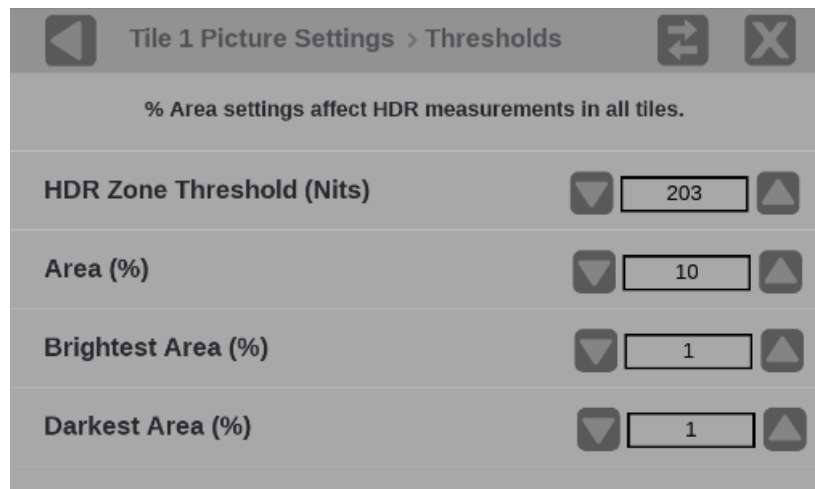

Figure 115: Picture Settings with Measurement Threshold menu
Select the picture measurements to see in the overlay. For many of the parameters a threshold setting is required. See the Measurement Threshold menu for setting these thresholds. (See Figure 115.)
**Setting Picture Measurement Thresholds.** To select the thresholds for those picture measurements that require them, press and hold in the Picture app and then select the  icon. Select the **Measurement Thresholds** menu item. (See Figure 115.)